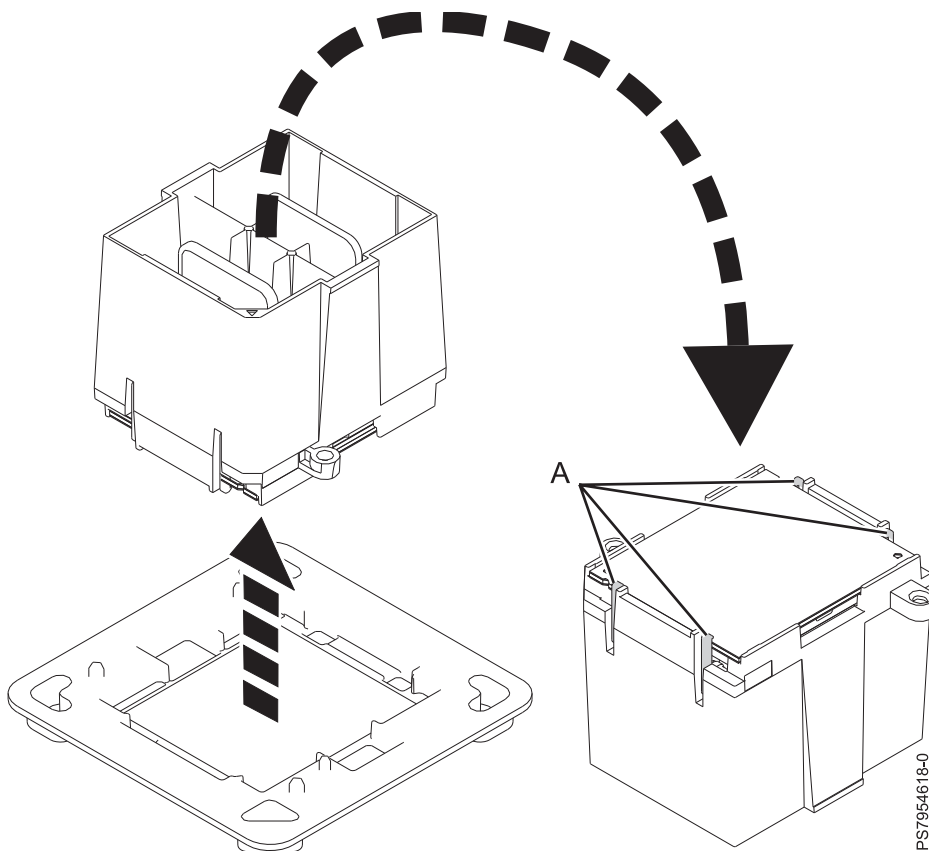

Figure 41. Preparing for microprocessor installation
- b. Ensure that all four jaws (**A**) are firmly grabbing the microprocessor, as shown in Figure 41 on page 78.